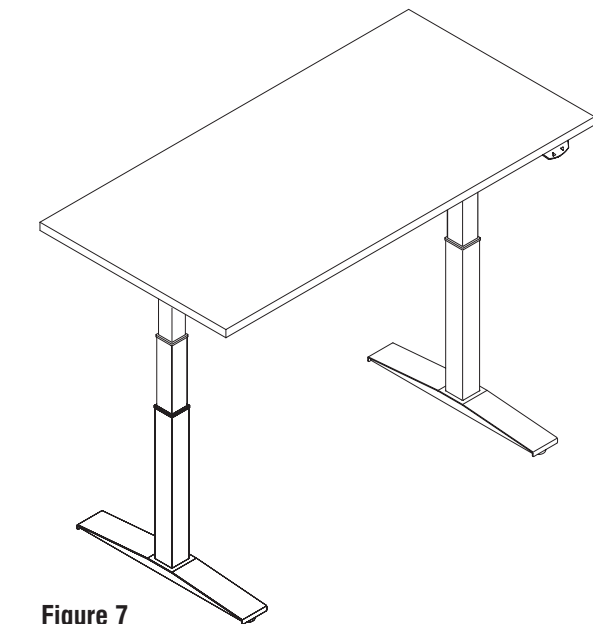

Figure 7
- Insert the power cord into the socket on the control box (Figure 7).